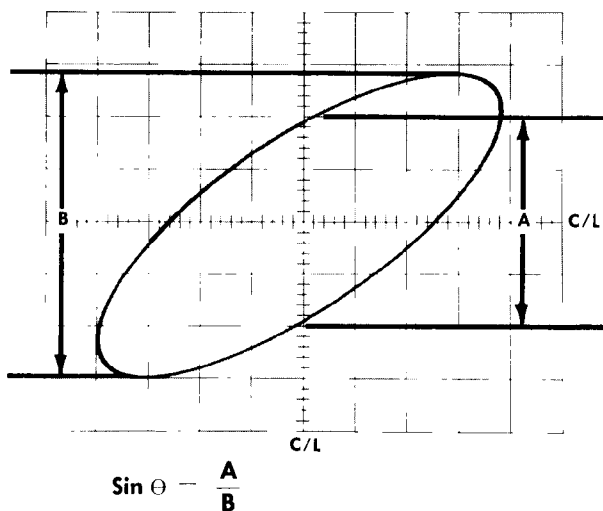

Fig. 3-1. X-Y method of calculating phase difference (θ) between two sine waves.
8. If the input signals are sine waves, the display will probably be an ellipse. Fig. 3-1 shows a method for calculating the phase difference between the two signals. (If the display appears as a diagonal straight line, the two sine waves are either in phase or 180° out of phase; if the display is a circle, the two sine waves are 90° out of phase.)